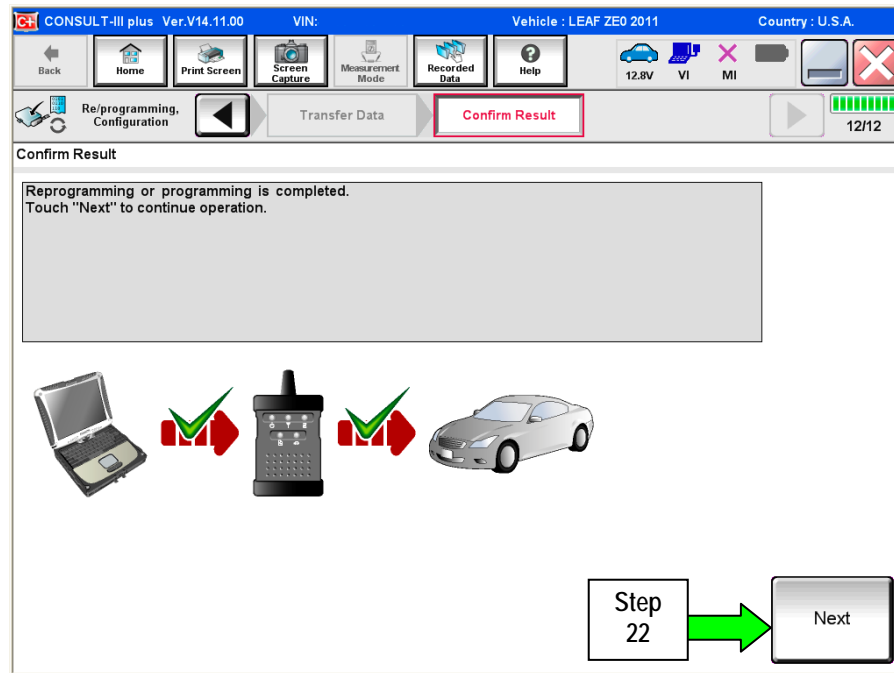

Figure 18
21. When the screen in Figure 18 appears, reprogramming is complete.